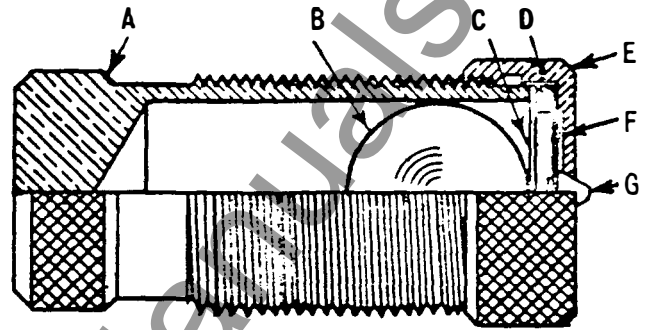

Fig. 21. Contact Assembly for Directional Unit
The contacts of the directional unit, Fig. 21, are specially constructed to suppress bouncing. The stationary contact (G), is mounted on a flat spiral spring (F) backed up by a thin diaphragm (C). These are both mounted in a slightly inclined tube (A). A stainless steel ball (B) is placed in the tube before the diaphragm is assembled. When the moving contact hits the stationary contact, the energy of the former is imparted to the latter and thence to the ball, which is free to roll up the inclined tube. Thus, the moving contact comes to rest with substantially no rebound or vibration. To change the stationary contact mounting spring, remove the contact barrel and sleeve as a complete unit after loosening the screw at the front of the contact block. Unscrew the cap (E). The contact and its flat spiral mounting spring may then be removed.